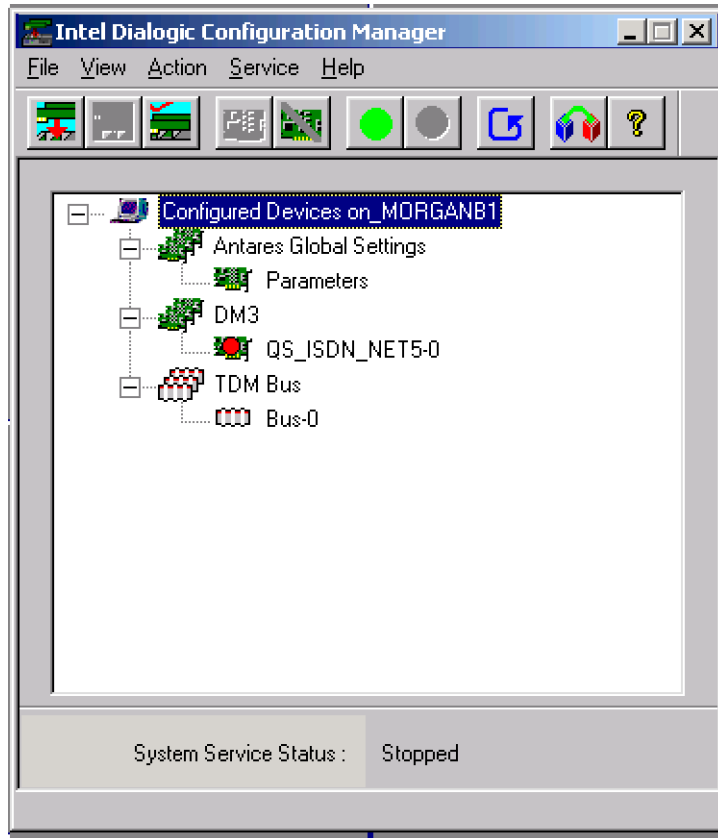
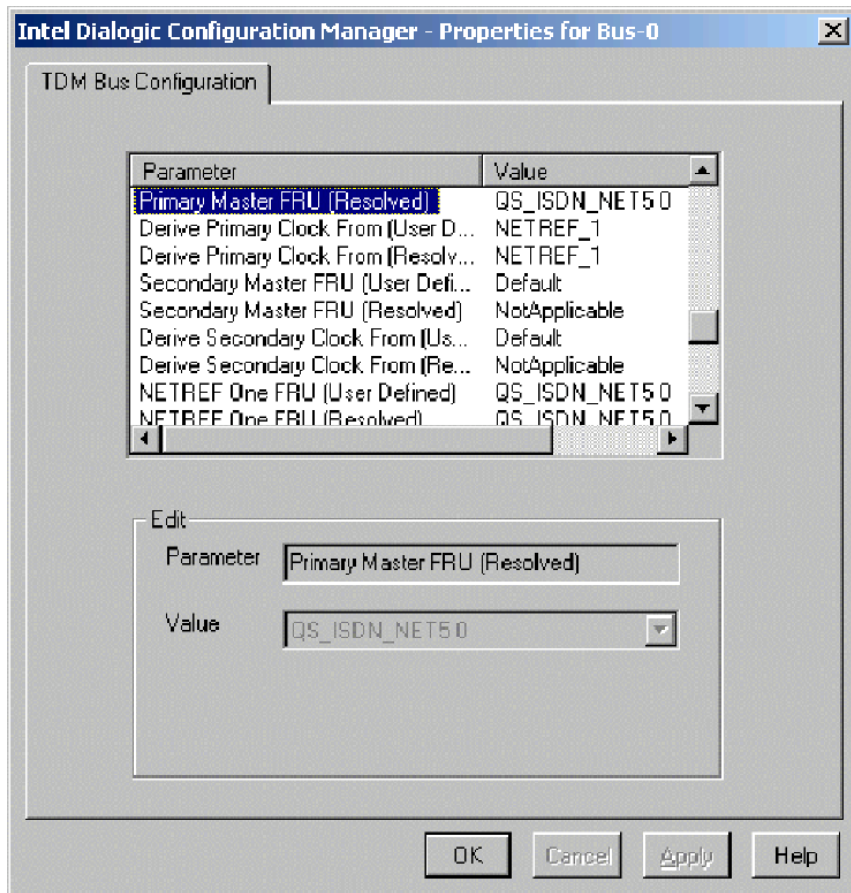

Figure 8. DCM Main Window
Figure 12. TDM Bus Configuration Property Sheet
When no more DM3 boards are detected, the DCM Main Window appears (Figure 8).
1. From the DCM Main Window (Figure 8, “DCM Main Window”, on page 45), click **Add Device** from the **Action** pull-down menu.
1. To access the clocking settings in DCM, double-click **Bus-0** under the **TDM Bus** in the DCM tree structure of configured devices (see Figure 8, “DCM Main Window”, on page 45). This displays the TDM Bus Configuration property sheet for Bus-0 (Figure 12).
1. To access the clocking settings in DCM, double click **Bus-0** under the **TDM Bus** in the DCM tree structure of configured devices. This displays the TDM Bus Configuration property sheet for Bus-0 (Figure 12).
1. On the DCM Main Window (Figure 8, “DCM Main Window”, on page 45), double-click **Bus-0** under **TDM Bus** in the DCM tree structure of configured devices. This displays the **TDM Bus Configuration** property sheet for Bus-0.